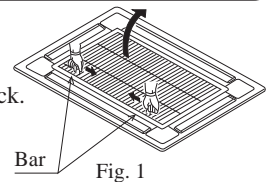

Fig. 1
- ① Push in the bar in inlet grill and lift it up. (Refer to Fig. 1)